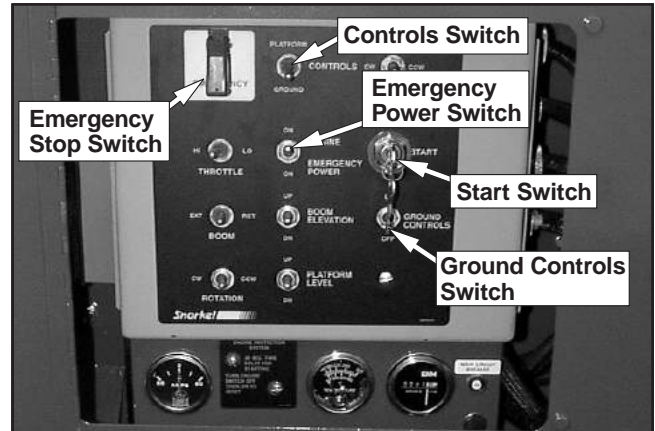

Figure 10.2—Lower Controls
2. Place the key in the master switch (refer to Figure 10.2) and turn the start switch on.